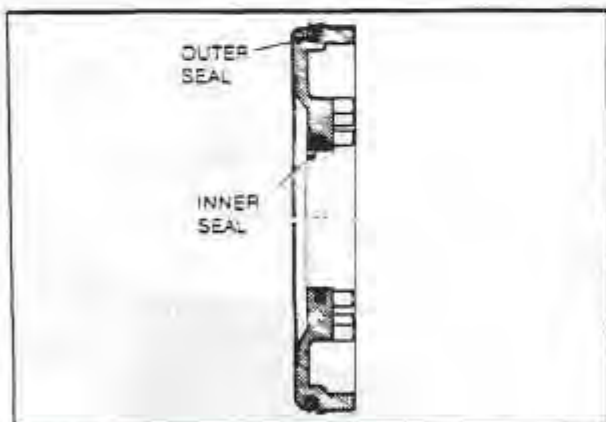

Fig. 57 C-1 PISTON SEALS
6. Remove the piston from the clutch housing. Remove the inner and outer seals from the piston. *Fig. 57*
Fit the square section seal inside the piston and lip-type seal on the outside of the piston with the lip facing the bottom. *Fig. 57*